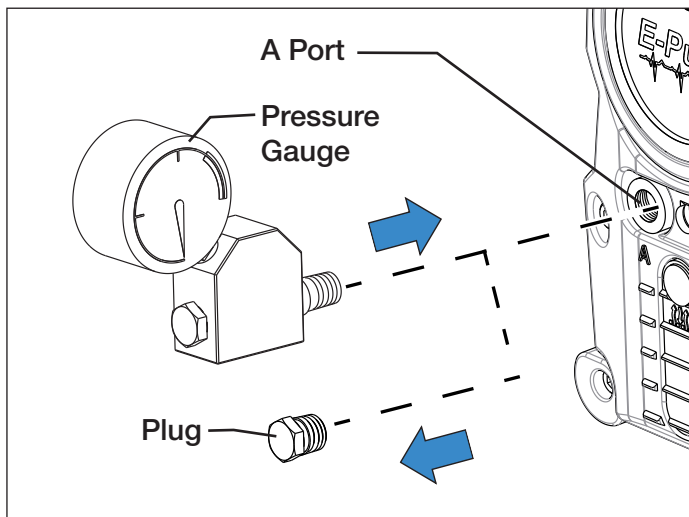

Figure 9, Pressure Gauge Installation
3. Install a 0-15,000 psi [0-1035 bar] hydraulic pressure gauge in the pump "A" port. See Figure 9.